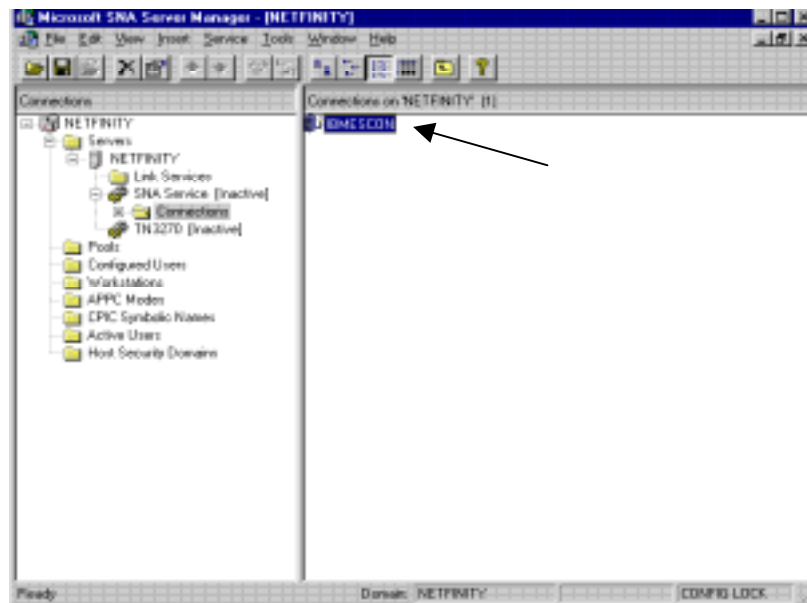

Figure 15-20. ESCON Connection (PU)
2. Verify that a connection is defined to the link service (Figure 15-20).